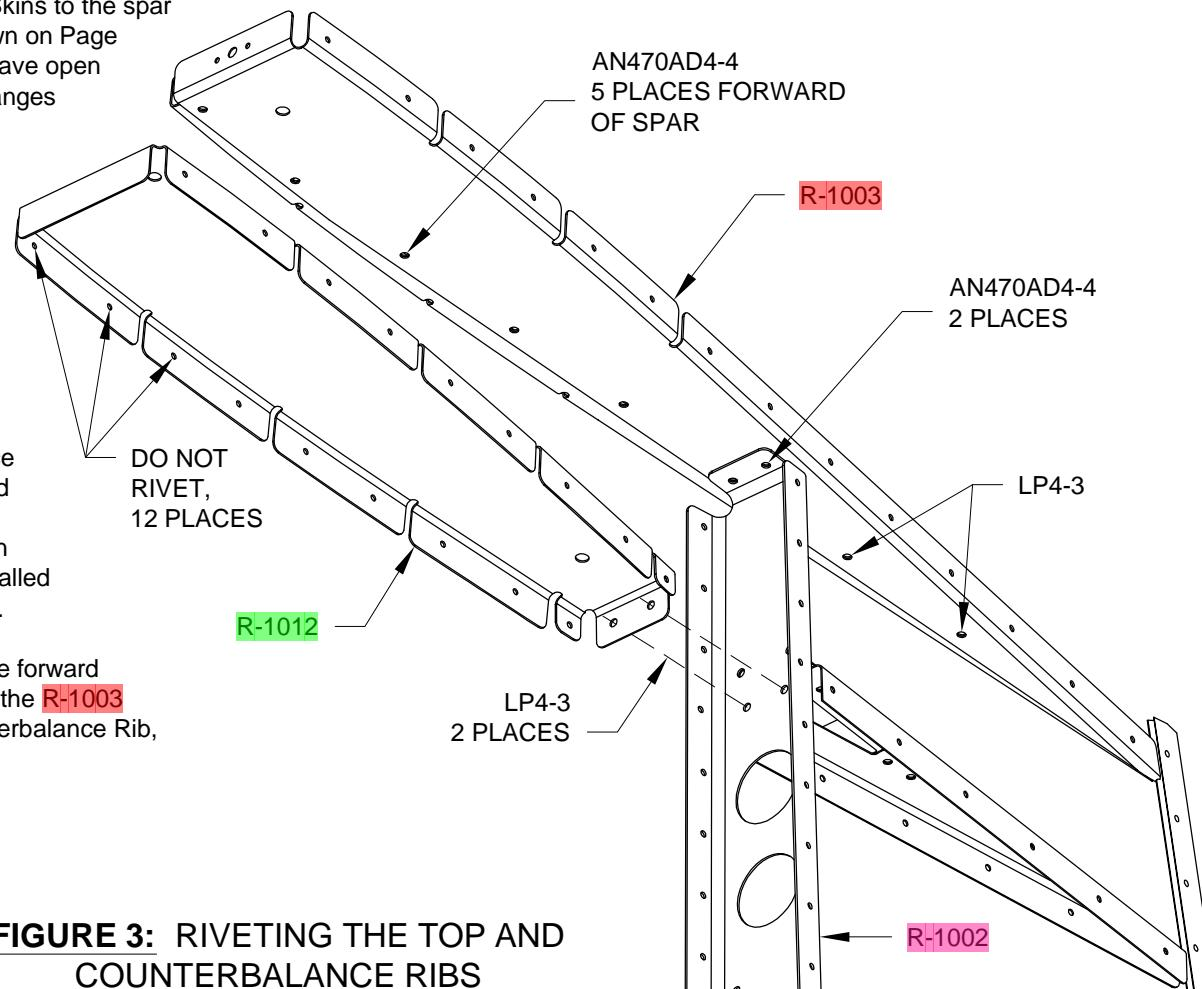

FIGURE 3: RIVETING THE TOP AND COUNTERBALANCE RIBS
Step 4: Rivet the R-1003 Top Rib together and to the R-1002 Spar with the rivets called out in Figure 3. The R-1001 Skins are not shown.
Step 5: Rivet the R-1001 Skins to the spar flanges with the rivets shown on Page 7-12, Figure 3. For now, leave open the two holes in the spar flanges (one hole per flange) which are common to the R-1012 Counterbalance Rib.
Step 6: Rivet the R-1012 Counterbalance Rib to the R-1002 Spar with the rivets shown in Figure 3.
Now that the counterbalance rib is in place, go ahead and rivet the holes in the spar flange, which were left open in Step 5, using the rivets called out on Page 7-12, Figure 3.
Step 1: Insert the rivets shown on Page 7-12, Figure 3 into the trailing edge holes. Tape all the rivets in place and flip the rudder over. Put blocks on either side of the back-riveting plate so the rudder can stay flat as it slides over the plate. Weight the rudder down to the work surface so it remains straight while riveting.